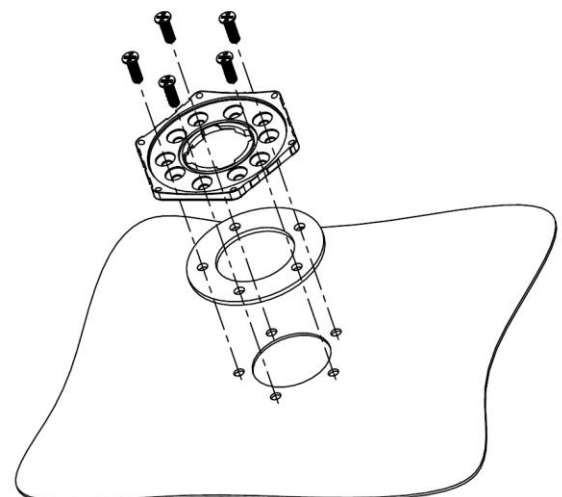

Fig. 9. Bayonet mount
- 4) Install the bayonet plate using screws or self-tapping screws. (Fig. 9).